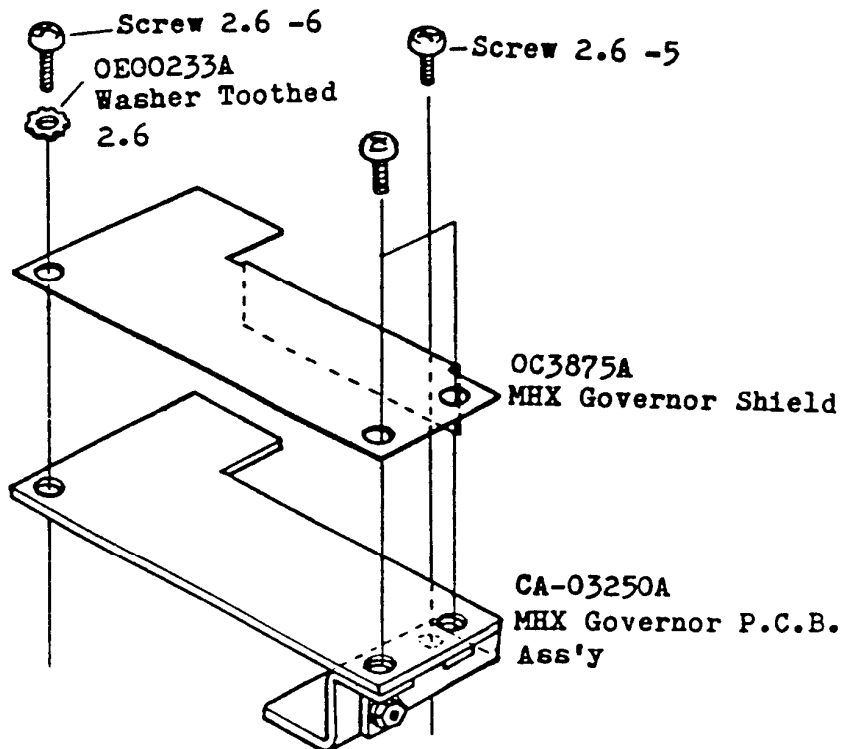

Fig.15
Refer to Fig.15, 16 and 17.
- (3) Assemble the MHX Governor Shield referring to Fig.15.